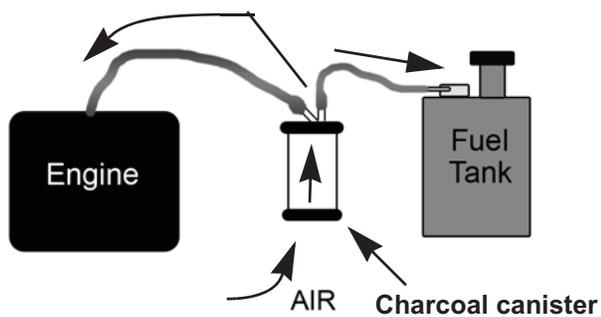

Figure 4.11
5. The second line on the charcoal canister goes to the control panel. When the engine is running, vapors are drawn out of the charcoal canister by the air being drawn into the carburetor. This re-charges the canister of the next down period. See Figure 4.11.